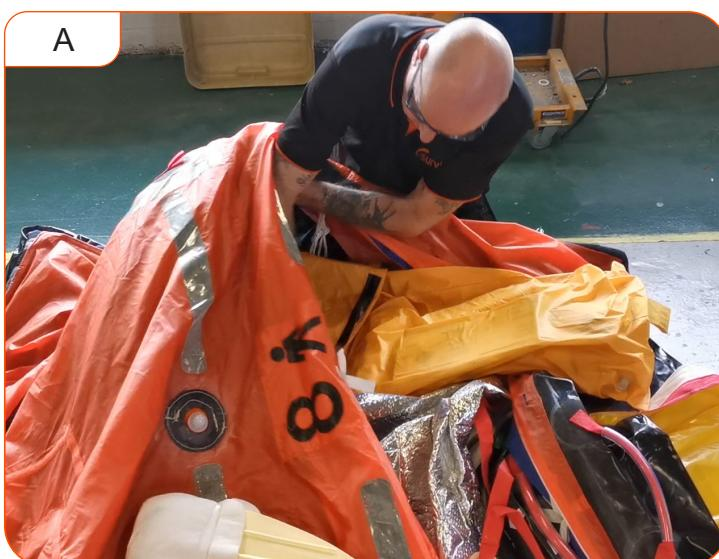

FIGURE 730
3.6.5 Insert the equipment bag and paddles. Refer to **Figure 730**: